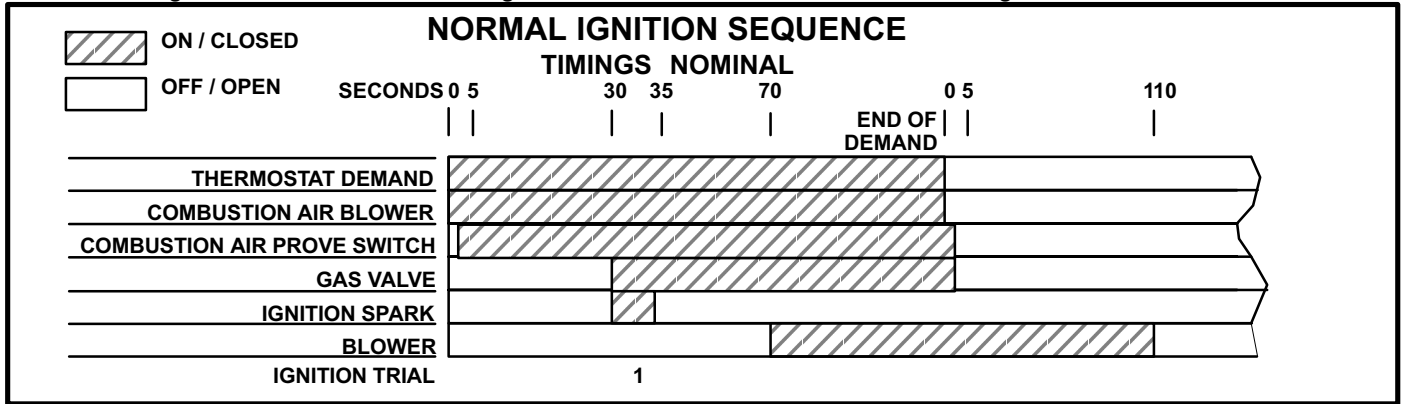

FIGURE 19
- c- The ignition control provides three main functions: gas valve control, ignition and flame sensing. It is powered only after the combustion air prove switch has closed. The ignition attempt sequence provides three trials for ignition before locking out. The blower control (K25) is energized simultaneously with the gas valve, so the blower will energize 30 to 45 seconds after flame has successfully been established. The unit will usually ignite on the first attempt. See figure 19 for a normal ignition sequence with nominal timings for simplicity.